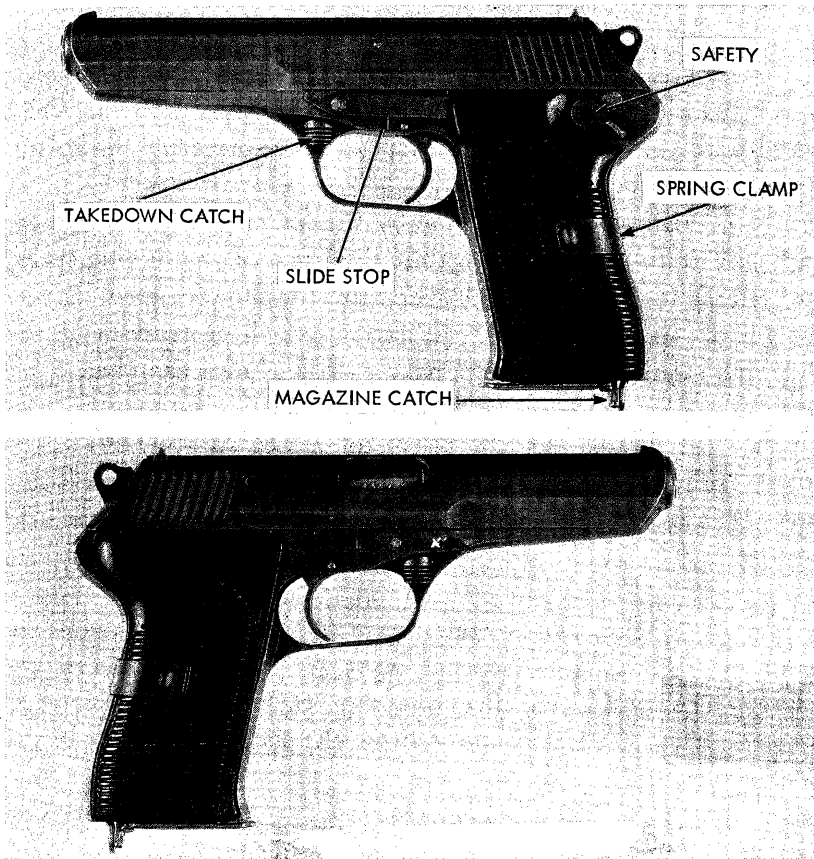

Figure 5. Czechoslovak Vz52 pistol.
The Vz52 (Model 1952) pistol (fig 5) is a substitute standard weapon in the Czechoslovak Army; it is being replaced by the Vz61 (Skorpion) machine pistol (para 31). The Vz52, however, may also be used by other armies. It is an eight-shot,
c. If desired, set the pistol to safe by rotating the safety (fig 5) fully upward to drop the hammer (the weapon will not fire); then release the safety, which will move to the normal safe position.
f. To clear the pistol, set the safety on safe, remove the magazine, and retract the slide. The slide can be locked open by pressing upward on the slide stop (fig 5) and then easing the slide forward until it is caught. Visually inspect the pistol to insure that no cartridges are present. Pull the slide slightly rearward to release the slide stop; then allow the slide to run forward. Reinsert the magazine. Press the safety fully upward to drop the hammer.
(1) Clear the weapon (para 9f), but do not insert the magazine.
(2) Pull the takedown catch, located on the front of the trigger guard (fig 5), down until the slide moves slightly forward. Press the slide forward, about one-fourth inch, until it disengages from the receiver; then completely separate the slide and receiver groups.
(3) Turn the slide so that the sights are down, and insert the lip of the magazine base into the notch in the locking wedge. Press the wedge about three-fourths inch forward, against the pressure of the driving spring, until the rear of the square shoulder of the barrel lines up with the dismounting cuts in the slide. Ease the rear of the barrel up through these cuts and carefully allow it to move to the rear.